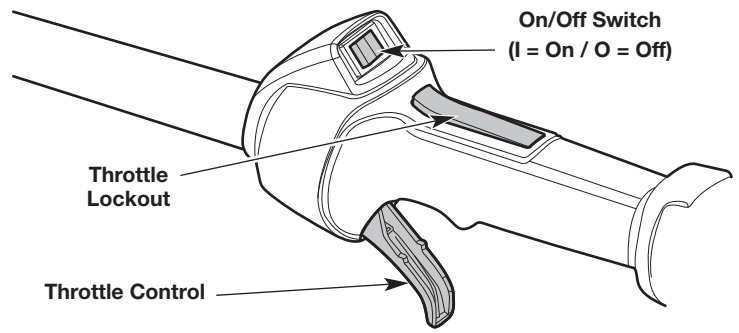

Fig. 17
NOTE: There is no need to turn the unit on. The On/Off switch is in the **On (I)** position at all times (Fig. 17).
5. Press and hold the throttle lockout. Squeeze and hold the throttle control (Fig. 17). Pull the starter rope with a controlled and steady motion **5 times** to start the engine (Fig. 19).
2. Press and hold the On/Off switch in the **Off (O)** position until the engine comes to a complete stop (Fig. 17).
6. Press and hold the throttle lockout. Squeeze and hold the throttle control (Fig. 17). Run the Speed Start™ accessory in intervals no longer than 2 seconds each until the unit starts.